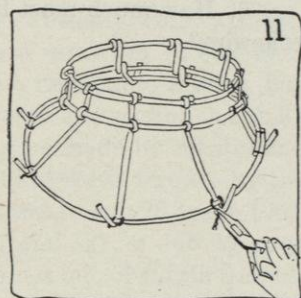

FIG. 11.
- a.* Choose your model and take the measurements of front, back, sides, side fronts, and side back wires, by measuring carefully from the headsize to the edgewire at each point (see Figure 11 of Job 10, page 46), or use given measurements.
- (2) Finish twisting the tie wire with nippers (see Figure 11).